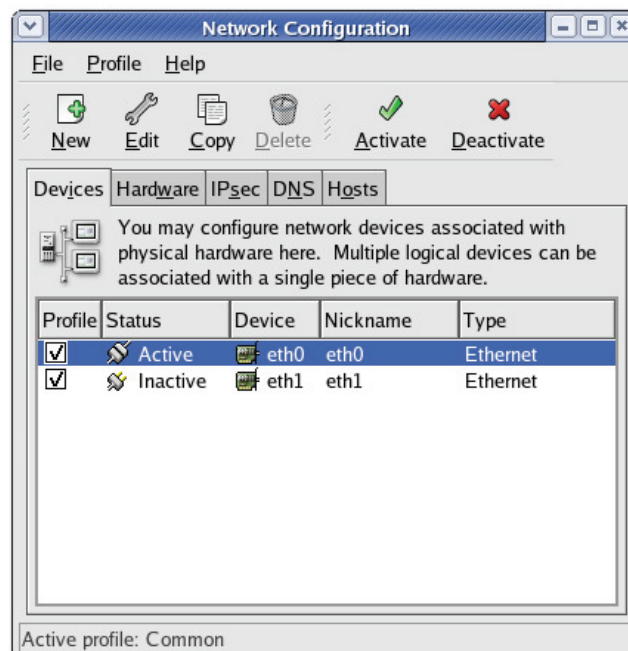

Figure 11. Network Configuration Window
3. From the menu bar on the desktop, select **System > Administration > Network**. The Network Configuration window appears (see figure 11).
8. Navigate back to the Network Configuration window (see figure 11). Select the **eth0** device and then click **Activate**.